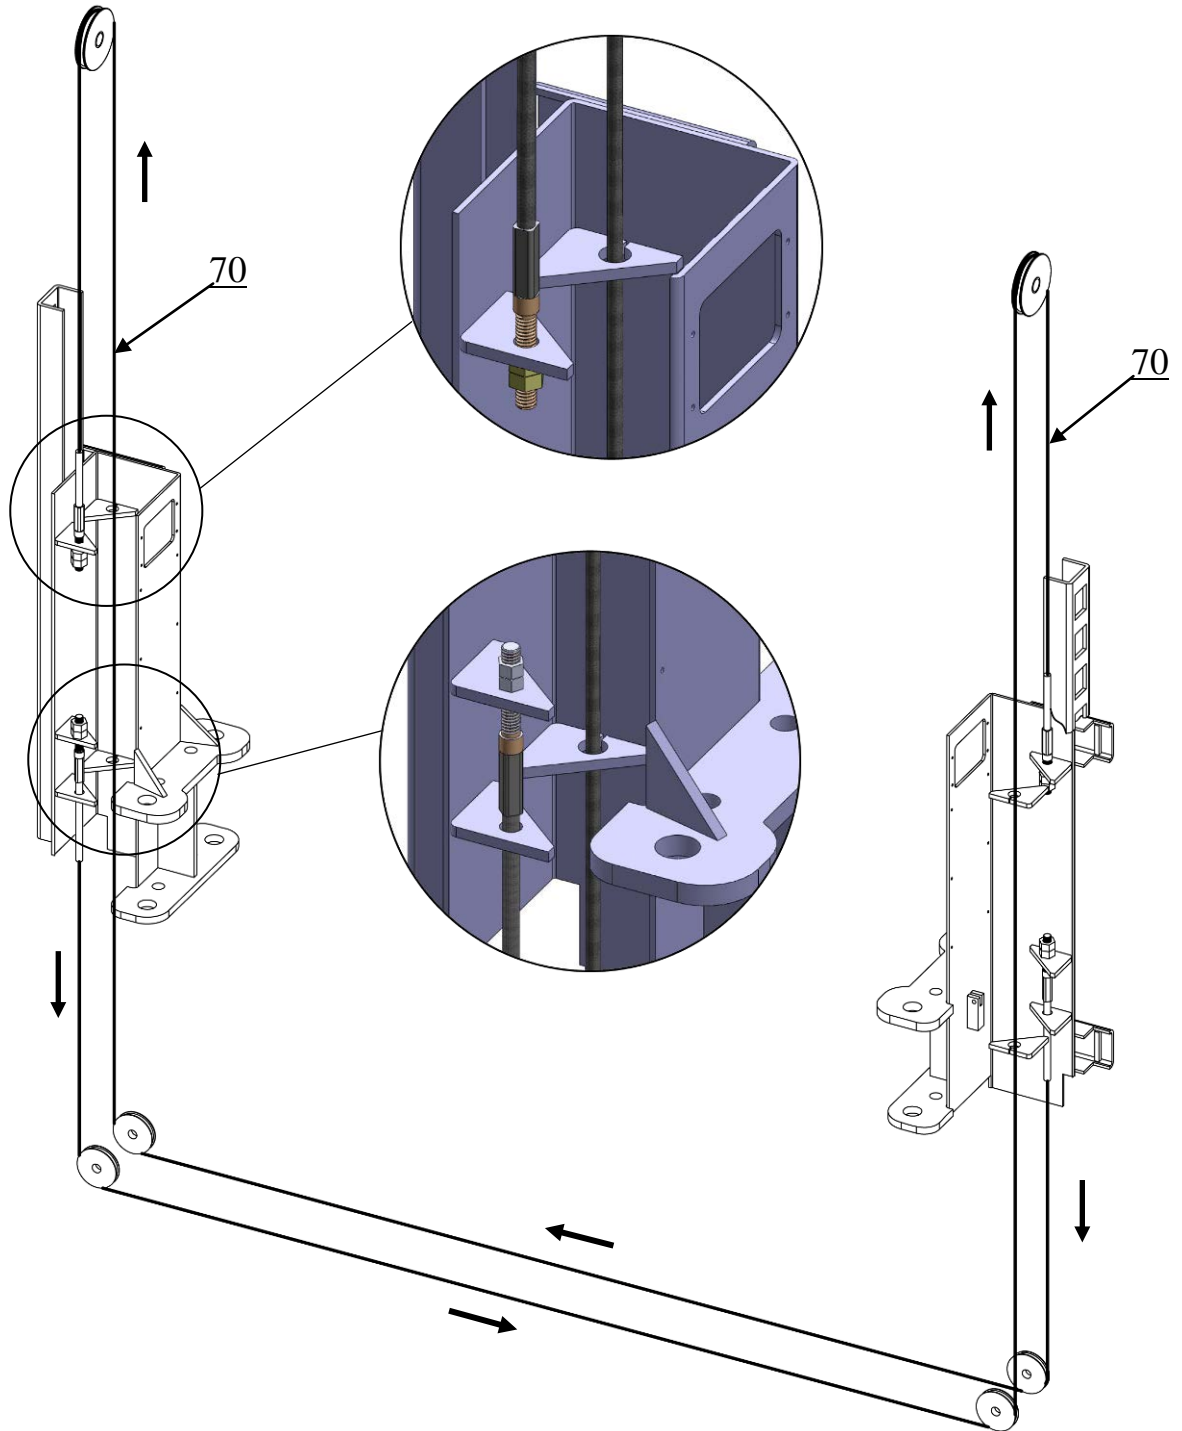

Fig. 21
2.2. Pass through the cable as arrow direction(See Fig. 21).